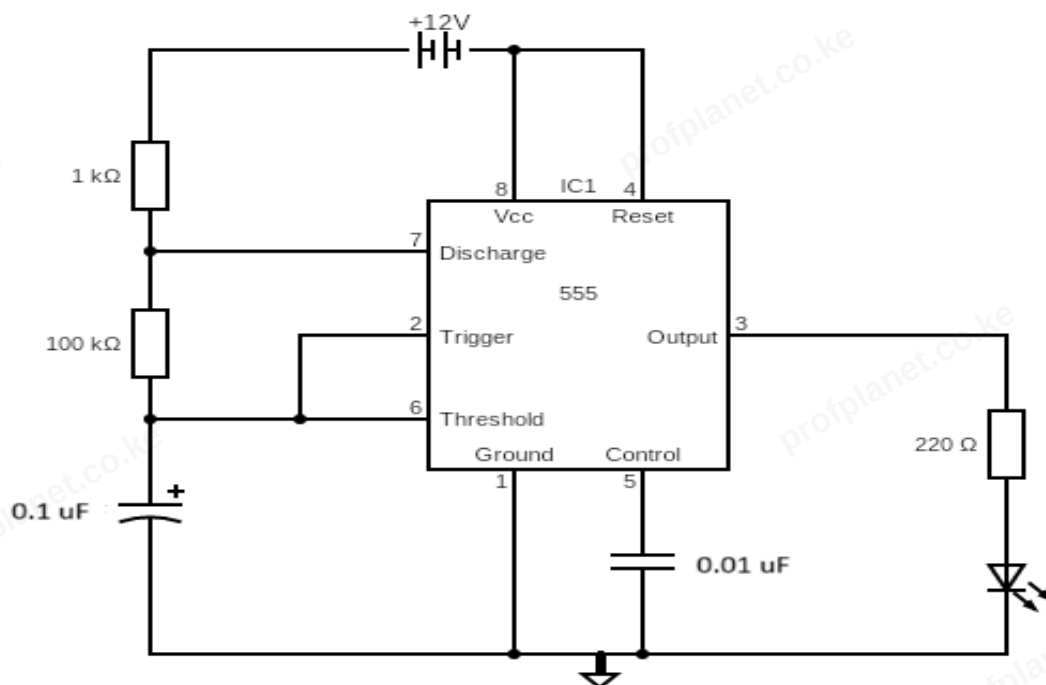

Figure 1
1. Figure 1 shows a Multi-vibrator circuit. You are required to perform the following tasks